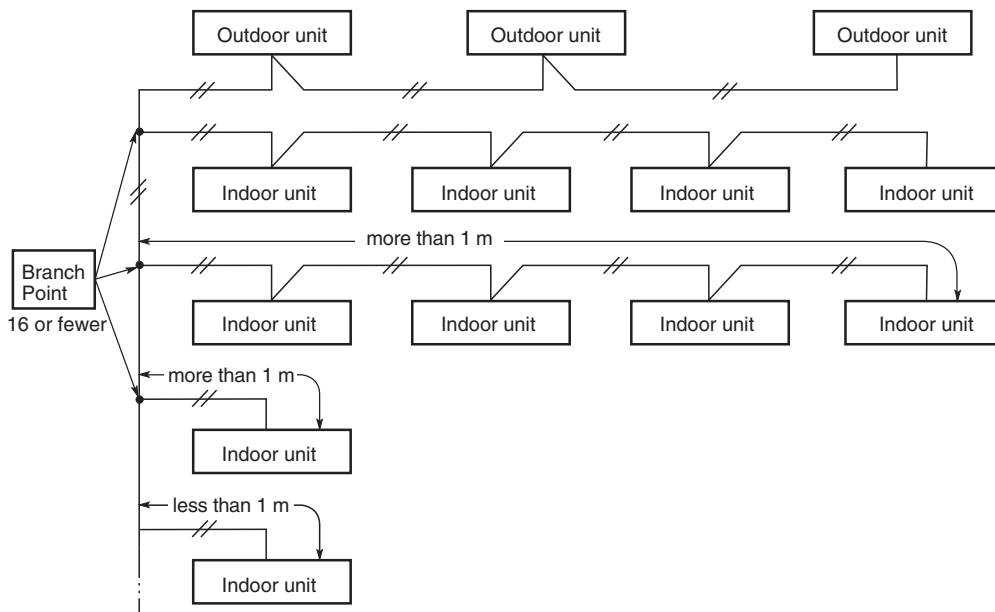

Fig. 4-3
- If branching the inter-unit control wiring, the number of branch points should be 16 or fewer. (Branches less than 1 m are not included in the total branch number.) (Fig. 4-3)